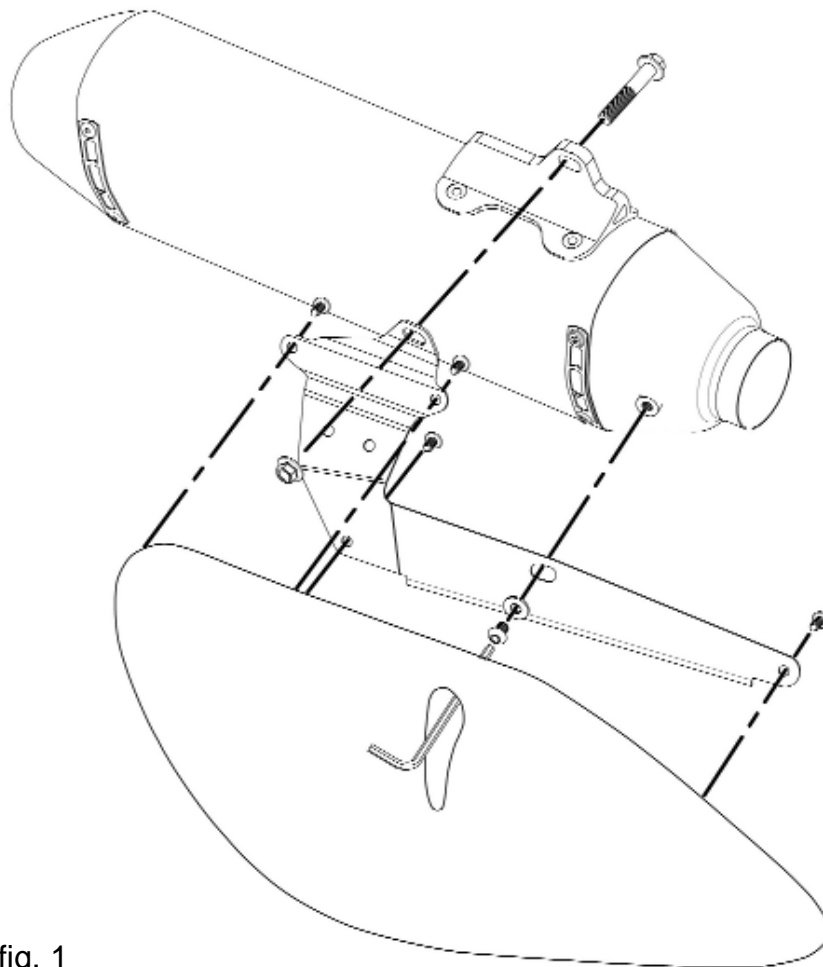

fig. 1
7. Separate the white plastic right side panel from the black heatshield by removing the four (4) Phillips head screws.
8. Using the four (4) screws removed in step #7, attach the white side panel to the supplied side panel support. Refer to figure 1.
13. Insert the supplied 8x45mm bolt first through the frame from the back then through the muffler mount. Refer to figure 1.
14. Slide the supplied washer onto the supplied 1/4x28 bolt. Apply a small amount of threadlocker fluid to the threads of the bolt then insert through the hole in the side panel support so the head of the bolt is accessible through the slot in the side panel (fig. 1). Loosely thread the 1/4x28 bolt into the mounting boss on the muffler.
15. Position the side panel support over the muffler mounting bolt. Loosely thread the stock muffler mounting nut removed in step #5 onto the muffler bolt (fig. 1).